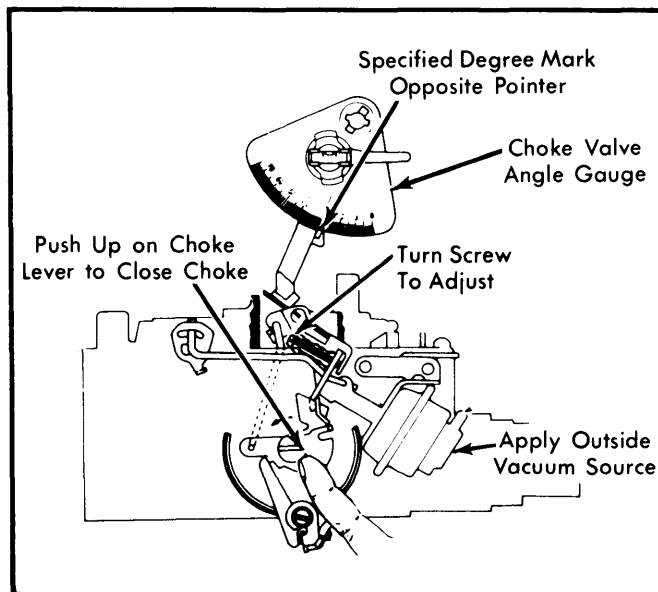

Fig. 8 Adjusting Primary (Front) Vacuum Break
1) Using an outside vacuum source of at least 15 in. Hg, seat primary (front) vacuum break diaphragm. See Fig. 8.